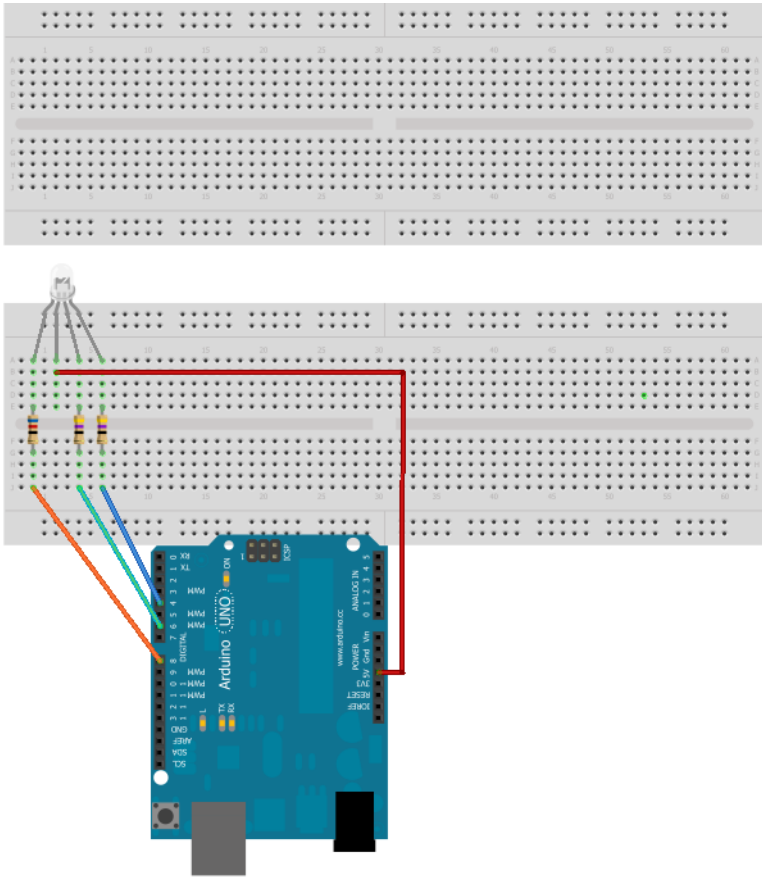

Figure 4-2. Step two.
2. **Connect the LCD.** Connect the common ground lead on the LCD (screen display) to the GND pin on Arduino. Connect the VCC lead on the LCD to the 3.3 power pin on Arduino. Connect the DATA lead on the LCD to Arduino pin 2 (Figure 4-2).